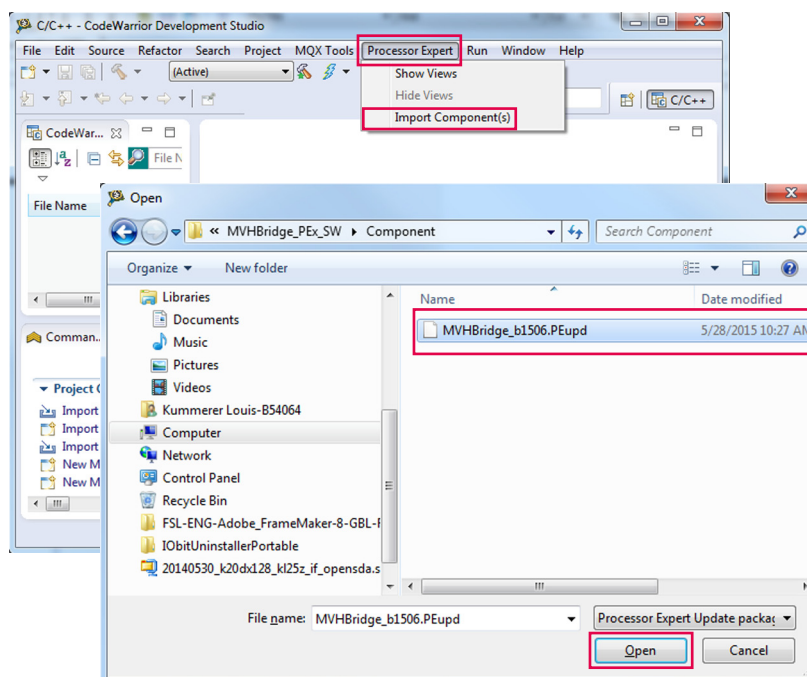

Figure 12. Importing the MVHBridge component
1. Launch CodeWarrior and click 'Processor Expert -> Import Component(s)' in the menu. In the pop-up window, locate Component file (.PEupd) in the example project folder: 'MVHBridge_PEx_SW/Component'. Select MVHBridge_bxxxx.PEupd file, then click 'open' (see Figure 12).